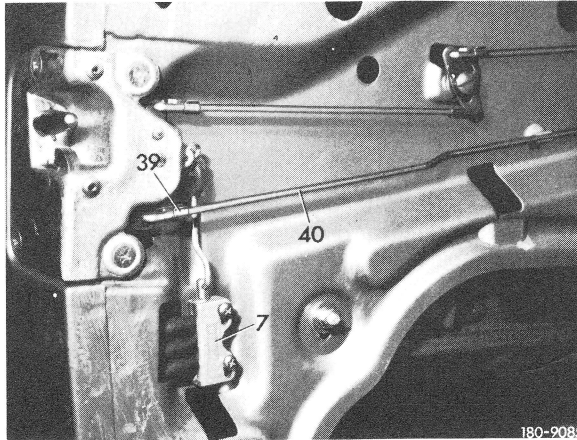

Fig. 1
- 2 Remove safety clip (39) of pullrod (40) (Fig. 1) and disconnect pullrod.
- 3 Unscrew sheet-metal screws from vacuum switch (7) (Fig. 1).
- 8 Attach vacuum switch (7) with sheet-metal screws in such a manner that switch will be hard to move within its oblong holes (Fig. 1).
- 9 Attach pullrod (40) and slip-on safety clip (39) (Fig.1).